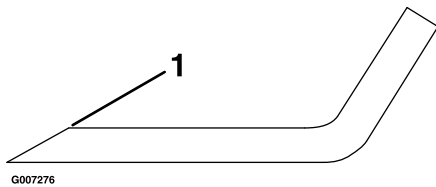

Figure 45
1. Use a file to sharpen the cutting edge at both ends of the blade (Figure 45). Maintain the original angle. The blade retains its balance if the same amount of material is removed from both cutting edges.